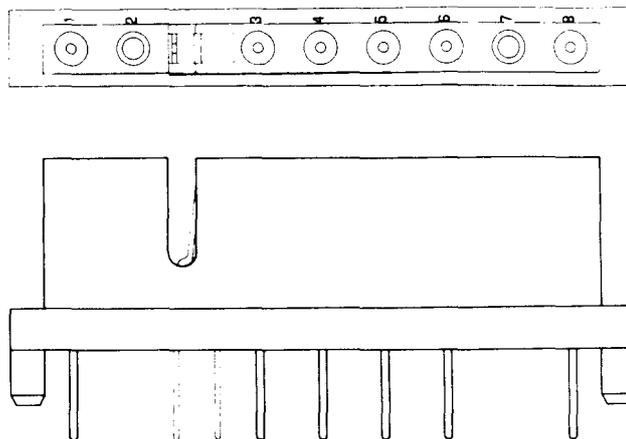

Fig. 15—KS-21152, L2 Connector
**2.08 KS-21152, L2:** The KS-21152, L2 (Fig. 15) is a 9-terminal connector which consists of a thermoplastic molded-block, having 6 gold-plated socket contacts and 1 shorting contact which opens when an equalizer is inserted into the connector. Two connectors are required for each equalizer. The contacts are designed to be terminated on printed wiring boards. This connector is used with the 950A equalizer in Common Systems.